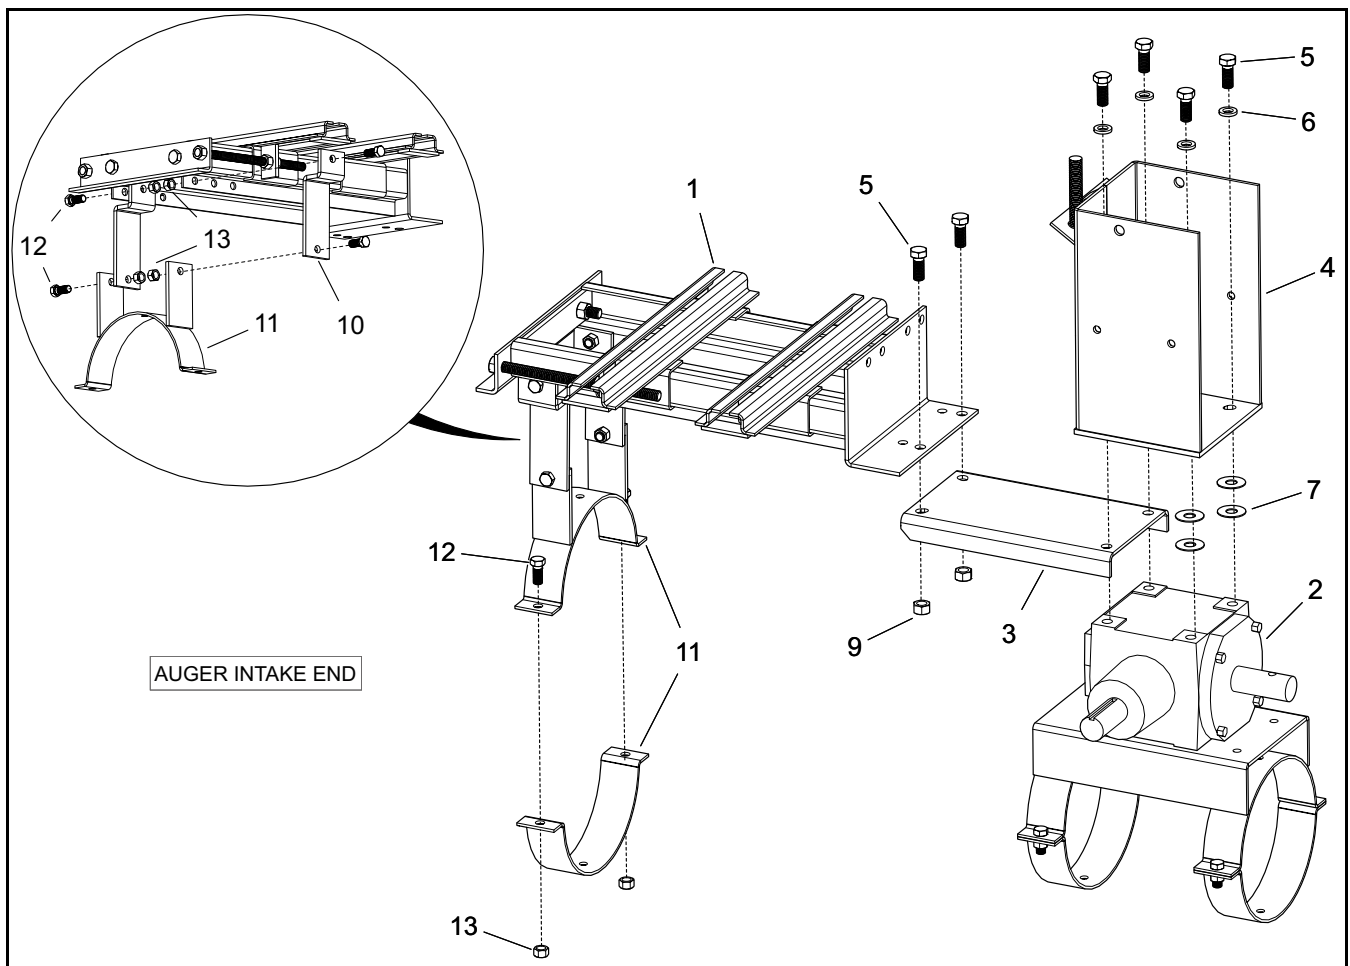

Figure 1 Installing Jackshaft Tower, Motor Mount, and Extension
- In the following steps, the motor mount (1) is positioned behind the gearbox (2), towards the intake end of the auger, as shown in Figure 1.
2. Position the motor mount extension (3) between the jackshaft tower (4) and the gearbox (2), and fasten with:
- Four 1/2" x 1-1/4" bolts (5) and 1/2" lockwashers (6)
- Four 1/2" flat washers (7) (use as shims)
3. Attach the motor mount (1) to the motor mount extension (3) using two 1/2" x 1-1/4" bolts (5) and 1/2" locknuts (9).
4. Secure the motor mount supports (10) and tube clamp (11) with 7/16" x 1" bolts (12) and 7/16" locknuts (13).